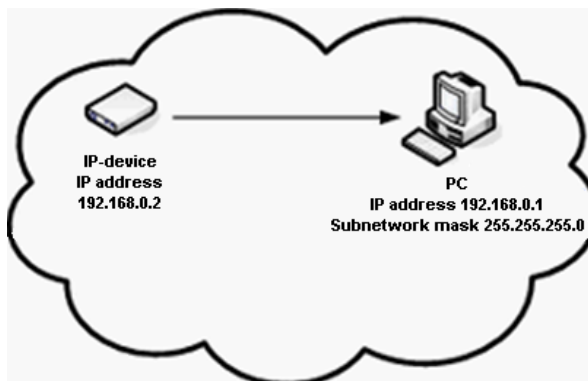

Figure 6.1-15 Server and IP-camera are in the same subnetwork
- 4.1. If the Server and IP-camera are installed in the same subnetwork, then the **Default router** parameter is not to be specified (Figure 6.1-15).